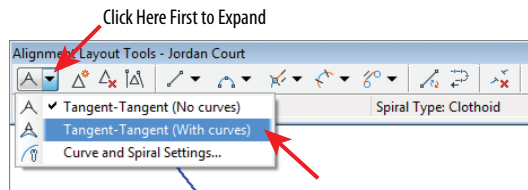

FIGURE 5.3 Selecting the **Tangent-Tangent (With Curves)** command
5. On the Alignment Creation Tools toolbar, click the black triangle on the first button on the left to expand it downward (see Figure 5.3). Then click **Tangent-Tangent (With Curves)**.